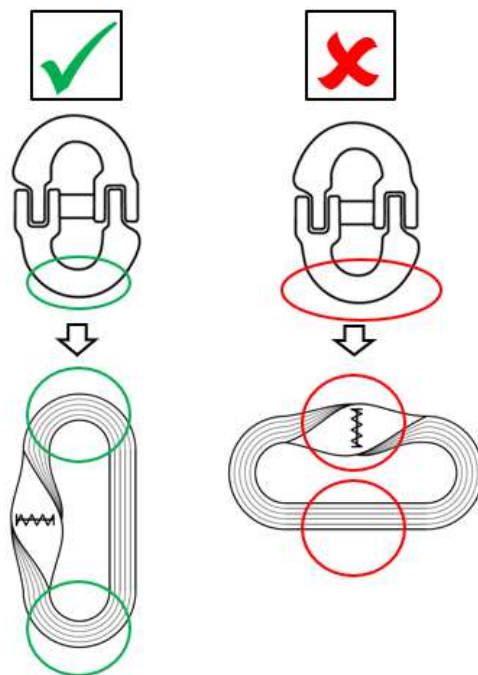

Figure 1. Link placement in the metallic accessory.
- Attachments must always be made with the load or accessory lashing points at one end (rounded sections of the link). Attachments should not be made in the straight section or on the turn of the link (Figure 1).